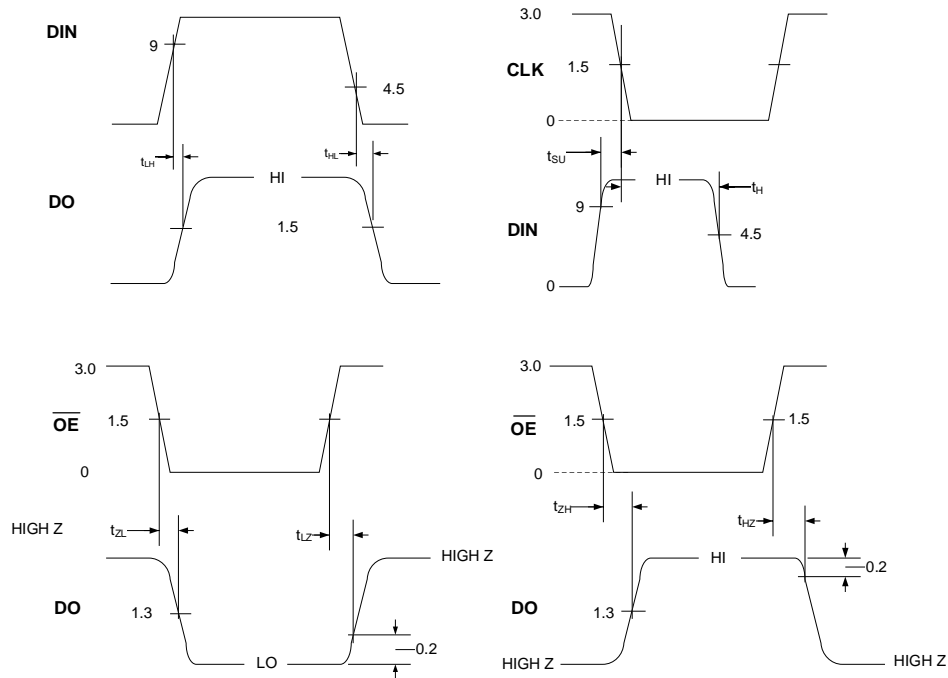

Figure 7 Switching Waveforms
3. Timing measured from $DO = 1.5\text{V}$ to $V_{DIN} = 9\text{V}$ (Rising Edge)/ 4.5V (Falling Edge). See Figure 7.
5. Timing measured from /OE= 1.5V to $DO=200\text{mV}$. See Figure 7.
6. Timing measured from $CLK = 1.5\text{V}$ to $V_{DIN} = 9\text{V}$ (Rising Edge)/ 4.5V (Falling Edge). See Figure 7.